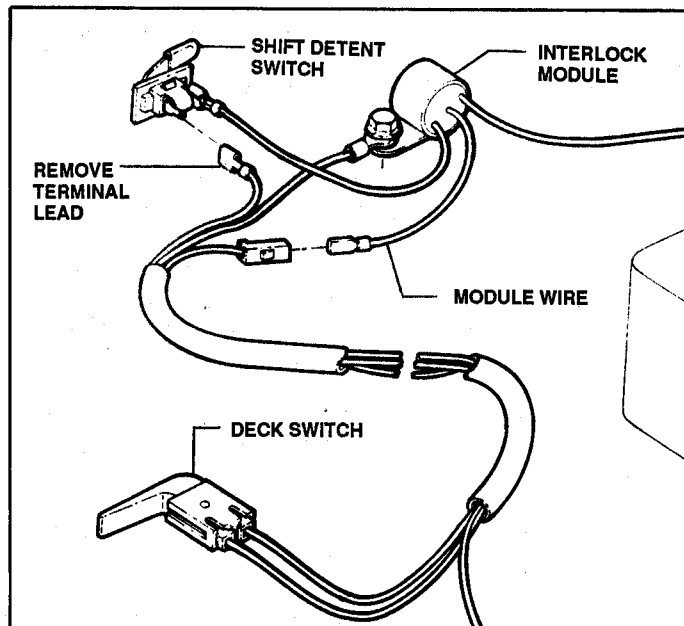

FIGURE 6.17
1. While under the shift detent switch panel disconnect DECK SWITCH wires from the shift detent switch and an interlock wire. See Figure 6.17.